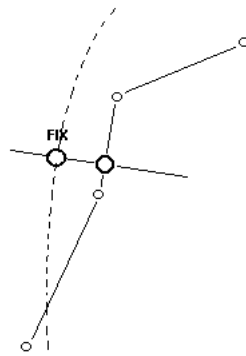

Figure 21: Position fix
- If this option is activated while routing, new point with the same name, which lays on the traverse of current point, will be added to the list of route points.(Figure 21)